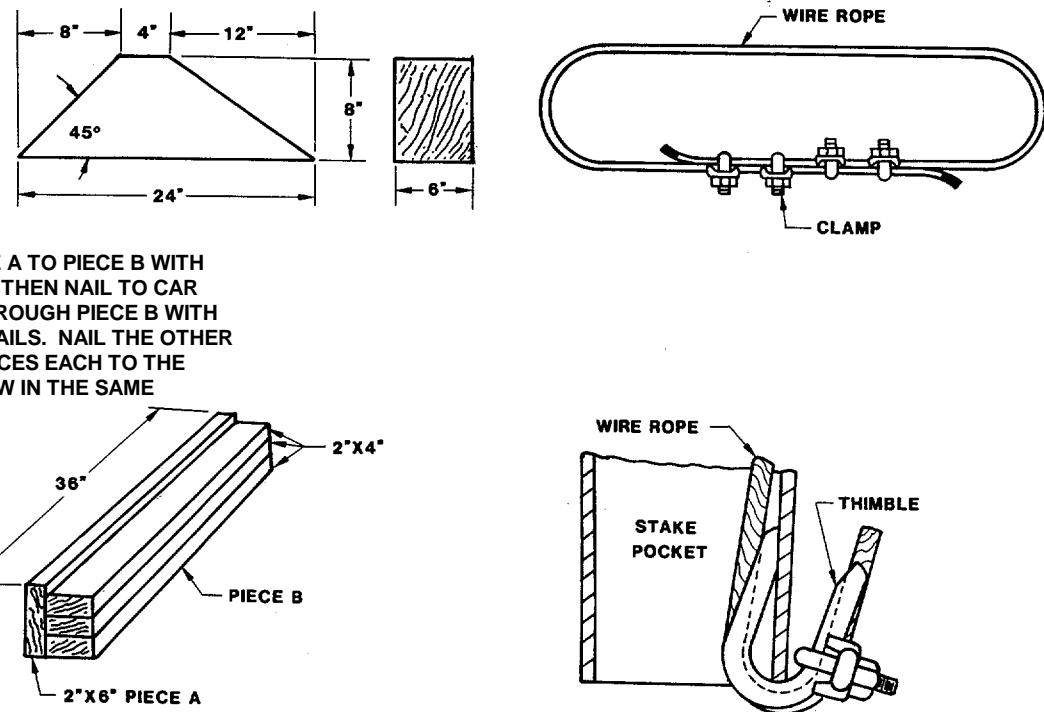

Figure 7-3. Blocking, bracing and tiedown material for standard flatcar.
(1) Step 1. Fabricate eight wheel blocks in accordance with block pattern 16 in figure 7-3. Locate the 45-degree end of the blocks against the front and rear of each wheel. Nail the heel of blocks to the railcar floor with three 40d nails. Toenail ends touching the tires to the railcar floor with two 40d nails.
(2) Step 2. Fabricate four tire sidewall blocks in accordance with blocking pattern 89 in figure 7-3. Place cushioning material between tire and sidewall block and between railcar floor and sidewall block. Follow the instruction in figure 7-3 for nailing sidewall blocks to railcar.
(2) *Step 2.* Install wire rope tiedowns to tiedown shackles and to the stake pockets. Use metal filler or thimbles sufficient to provide a suitable radius to protect the wire rope at the stake pockets and at the vehicle tiedown shackles. Use clamp to prevent dislodgement, as shown in figure 7-3. Install cable clamps as shown in figure 7-3. Manually tighten wire rope U-bolt clamp nuts to 65 foot-pounds. Make wire rope as tight as possible. Once installed, remove come-along. Repeat steps 1 and 2 for the remaining three corners.